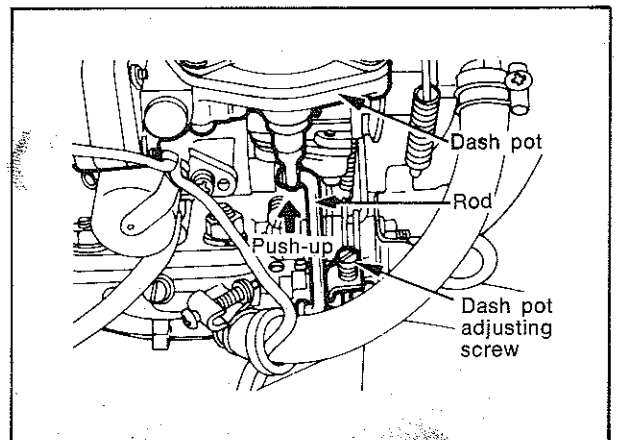

Fig. 30—Dashpot adjustment
- (1) With the engine running, push up on the lower end of the dashpot rod until it bottoms. The engine speed should be 2200 ± 100 r.p.m. If not, reset the speed using the dashpot adjusting screw (Fig. 30).
- (2) Release the rod and the engine speed should drop to 900 r.p.m. within 3 to 6 seconds. Replace a dashpot that fails to meet this specification.